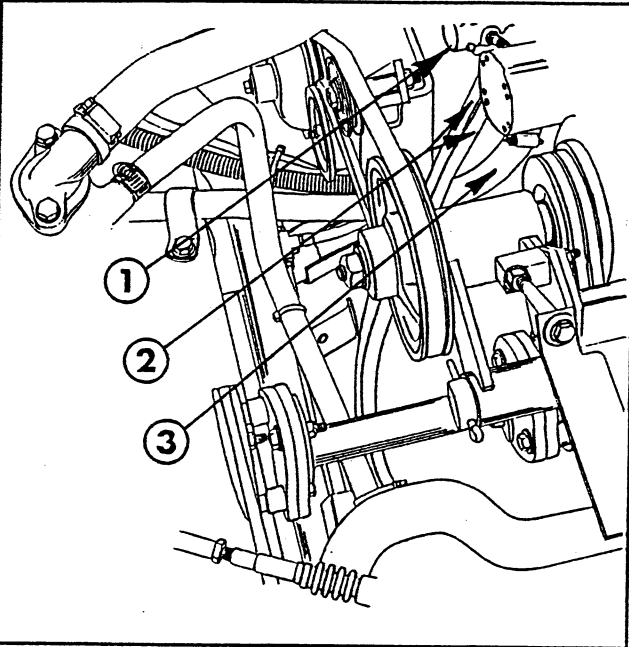

FIG. 3
10. At the hydraulic control valve, loosen and disconnect the fittings for the right hand dump cylinder hoses. Reroute these hoses to the underside of the pump suction hose. Reconnect and tighten fittings, then secure with tie straps. Secure all other hoses and cables with tie straps to ensure they do not rub against pump pulleys and belts. See FIG. 3.